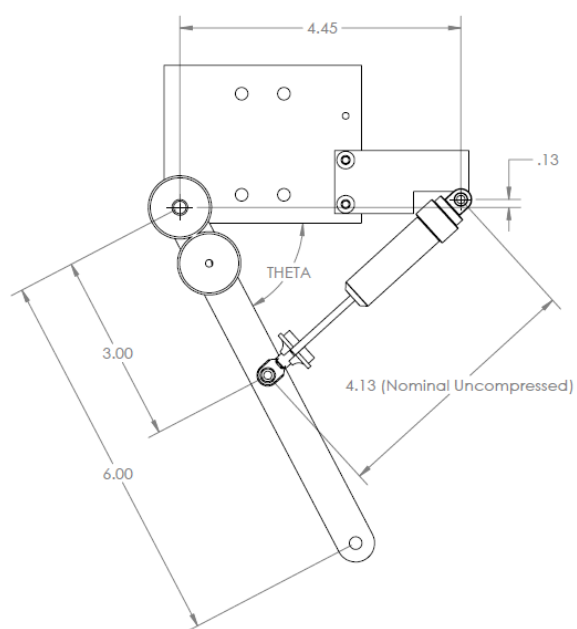

Figure 2: Landing gear dimensions (inches)
- Use the rotary potentiometer to measure the angle of the landing gear linkage and calculate the stroke of the landing gear from the geometry of the landing gear shown in figure 2.